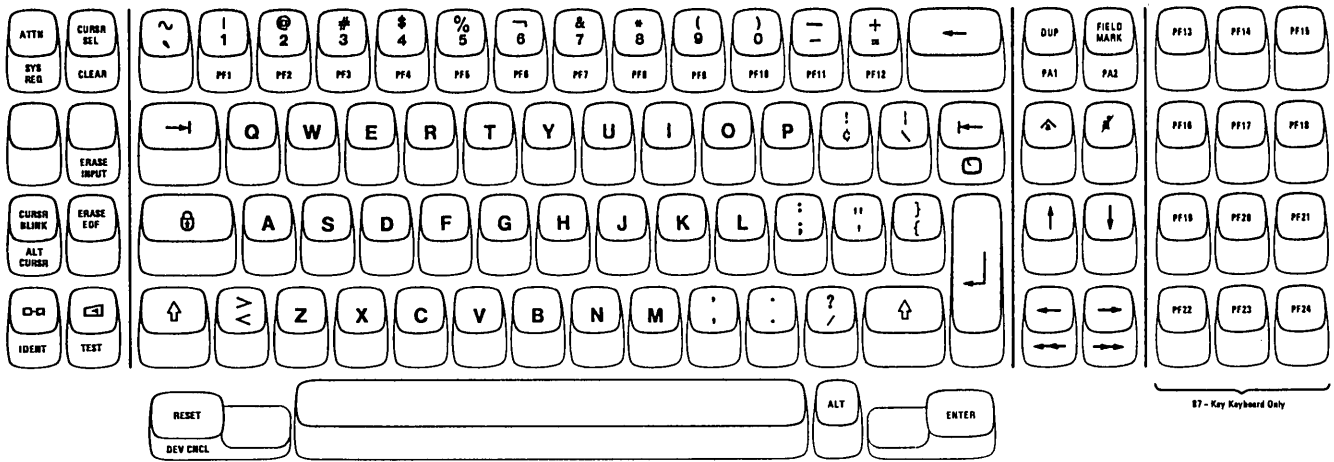

Figure 3-2. Typewriter Keyboard
- The Typewriter keyboard (Figure 3-2), which resembles a typewriter keyboard